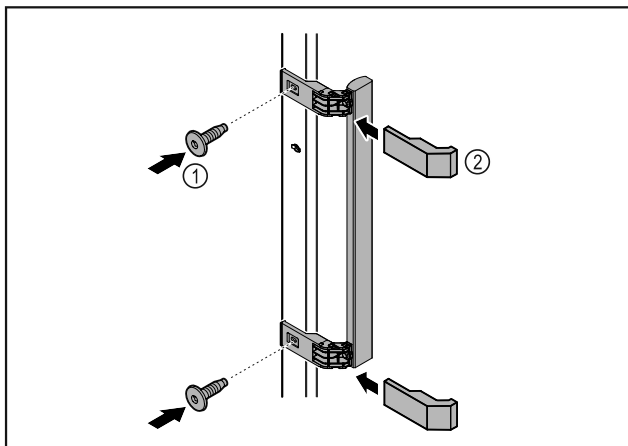

Fig. 46
- Attach handle from accessory kit to the door using the screws supplied Fig. 46 (1).
- Put on cover Fig. 46 (2).